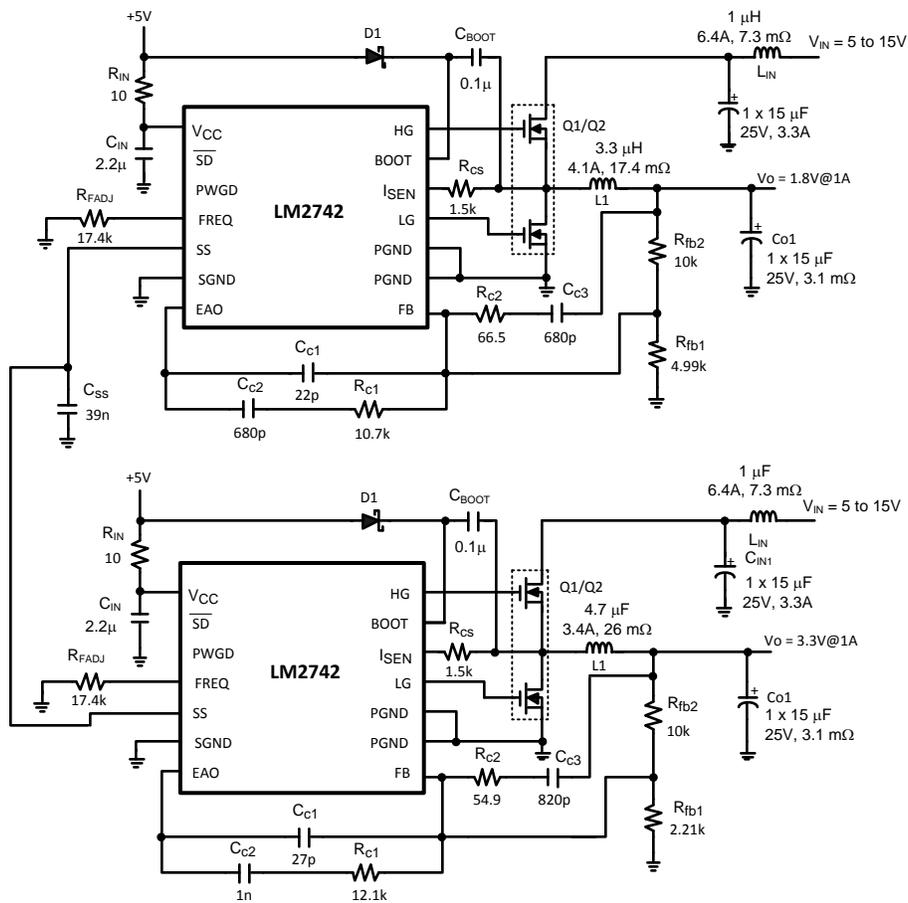

Figure 35. 1.8V and 3.3V, 1A, 1.4MHz, Simultaneous
**Table 6. Bill of Materials for Circuit of Figure 35**